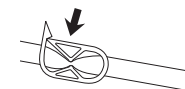

Figure 2: Close
1. Close the pinch clamps on the connector hose and pad (Figure 2).
2. Close pad clamps (Figure 2).